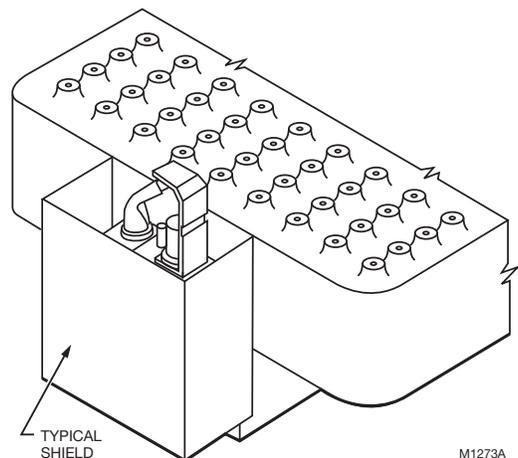

Fig. 19. Proper shielding of pilot flame.
3. If all Location instructions are followed, but the pilot continues to go out, construct a shield to protect the pilot flame from the main burner ignition, extinction and drafts. See Fig. 19.